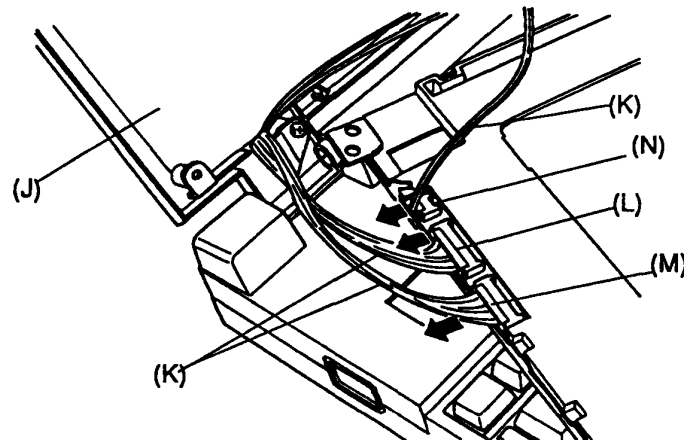

Figure 4-39 Disconnecting the LCD cables
6. Rotate the LCD module out of the LCD cover (J) and disconnect the LCD cables (K) from CN1 (L), CN2 (M), and CN3 (N) (Figure 4-39).
1. Connect the LCD cables to CN1, CN2, and CN3 on the LCD module (Figure 4-39).
5. Turn the FL inverter board so that the back is facing you and then connect the three FL inverter cables to CN1, CN2, and CN3 on the FL inverter board (Figure 4-39).